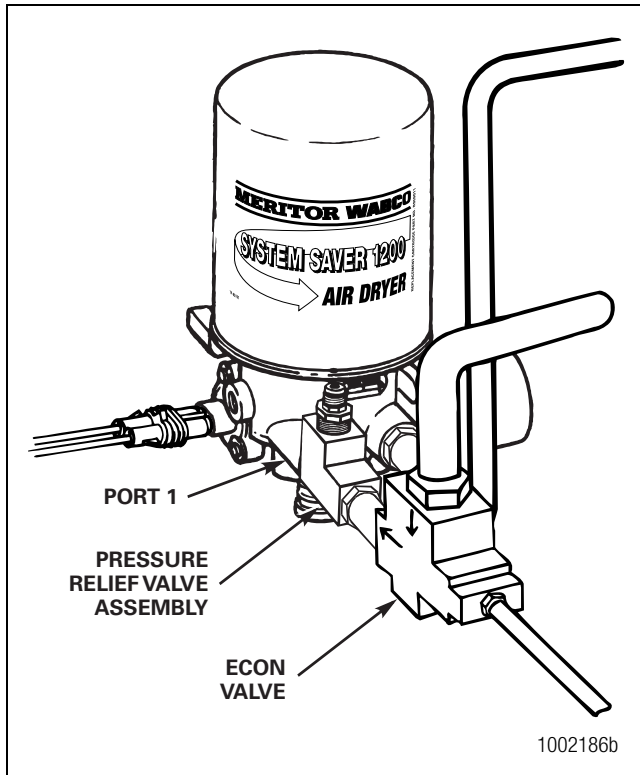

Figure 6.3
1. Unscrew and remove all of the lines from the Econ valve at the air dryer inlet port. Figure 6.3.